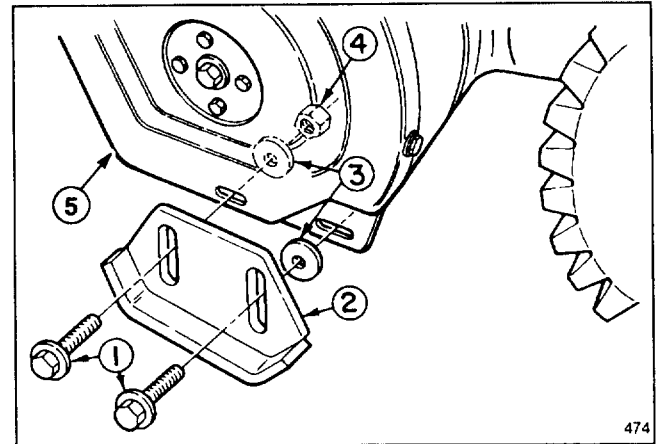

Figure 8
3. Remove (2) flange bolts and washers securing ends of scraper to side plates (Fig. 8). Reinstall
bolts through rear slots in skids. Assemble both skids so that washers are between skids and sideplates (Fig. 8). Do not tighten bolts.